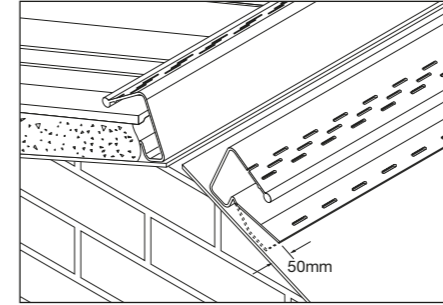

Fig. 7 – Bedded verges
- Lay undercloak under flange and bed tiles in normal manner (Fig. 7). Where a PVC end cap is used (see Fig. 8).